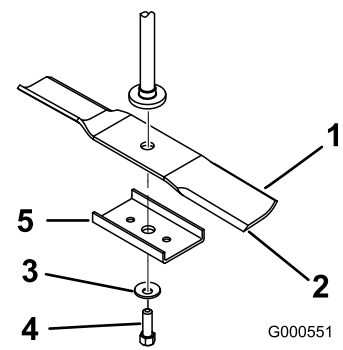

Figure 46
Hold the blade end using a rag or thickly-padded glove. Remove the blade bolt, curved washer, blade stiffener (42 inch models only), and blade from the spindle shaft (Figure 46).
1. Install the blade onto the spindle shaft (Figure 46).
2. Install the blade stiffener (42 inch models only), the curved washer (cupped side toward the blade) and the blade bolt (Figure 46).